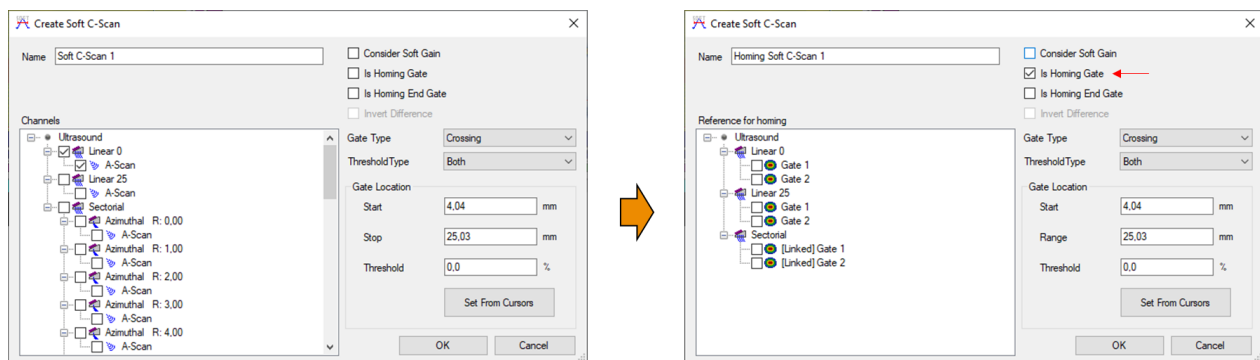

Figure 26: Activating Homing mode for Soft C-Scans
3. Check the **Is Homing Gate** checkbox so that the soft C-Scan will be created in the Homing mode. As displayed in Figure 26, once checked: